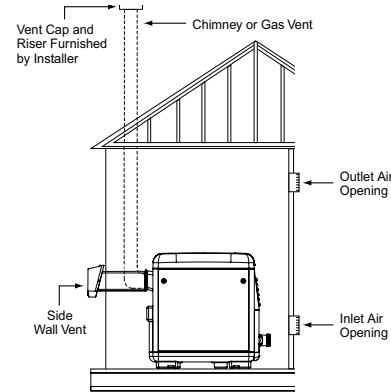

Figure 26.
**HORIZONTAL OR VERTICAL VENTING - USING SINGLE-WALL STAINLESS GAS VENT** (See Figures 26, 27 and 28)
- Vent Termination – Vertical** (See Figures 26, 27, and 28) for height of vent termination above the roof. Use an "Approved" vent terminal specified by local and national codes and your manufacturer's instructions. A roof termination must be vertical.
The terminal must be located (See Figure 26):
- at least 76 mm (3 in) and at most 304 mm (12 in) out from the wall (see Figure 26, page 22), following the vent manufacturer's instructions
- at least 2.1M (7 ft) above grade adjacent to walkways or similar traffic areas. The terminal must be located (See Figure 26):
(See Figures 26, 27 & 29)